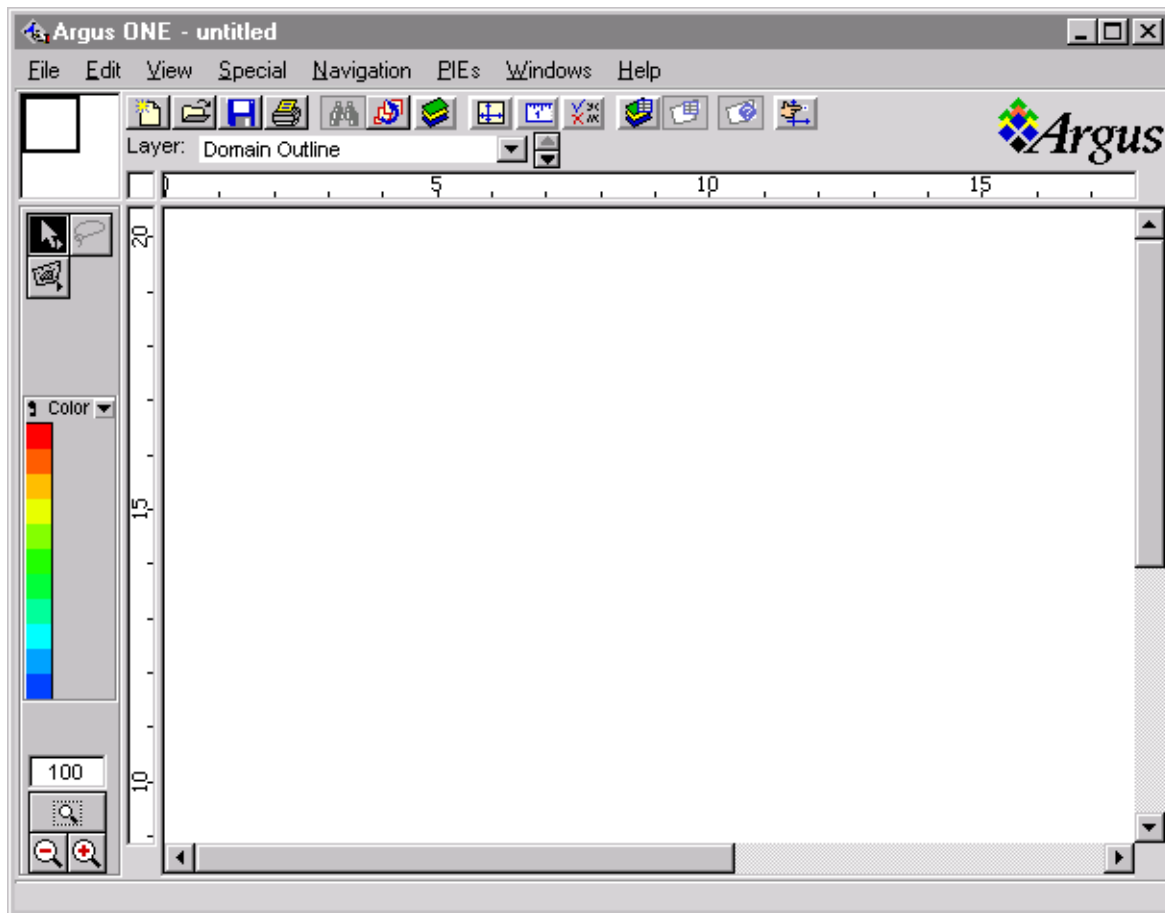

Figure 18. Argus ONE Window
Following exit from the *SUTRA Non-Spatial Information dialog*, described previously, the standard *Argus ONE* window appears (Figure 18). This window contains many controls for the user environment, and these are all described in the Argus ONE documentation. Only controls that are specifically related to use of the interface for SUTRA simulations are described in this document.
- **Show&Hide** or **Hide Others** in the **View Menu** found along the top of the *Argus ONE window* (see Figure 18) may be used to control visibility.